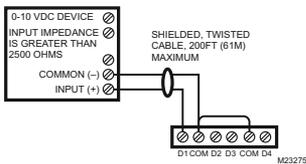

Fig. 10. Analog Output Wiring Diagram.
Analogue Outputs (AO) are referenced by the terminals labeled A_n and 0 V (ground). Each AO can supply a maximum of 4 mA over the entire 0 to 10 Vdc range. The minimum input impedance of a device controlled by an AO must be greater than 2500 ohms. Typical wiring for an AO is shown in Fig. 10. For each AO, use a `VoltageOutputWritable` in the station database.